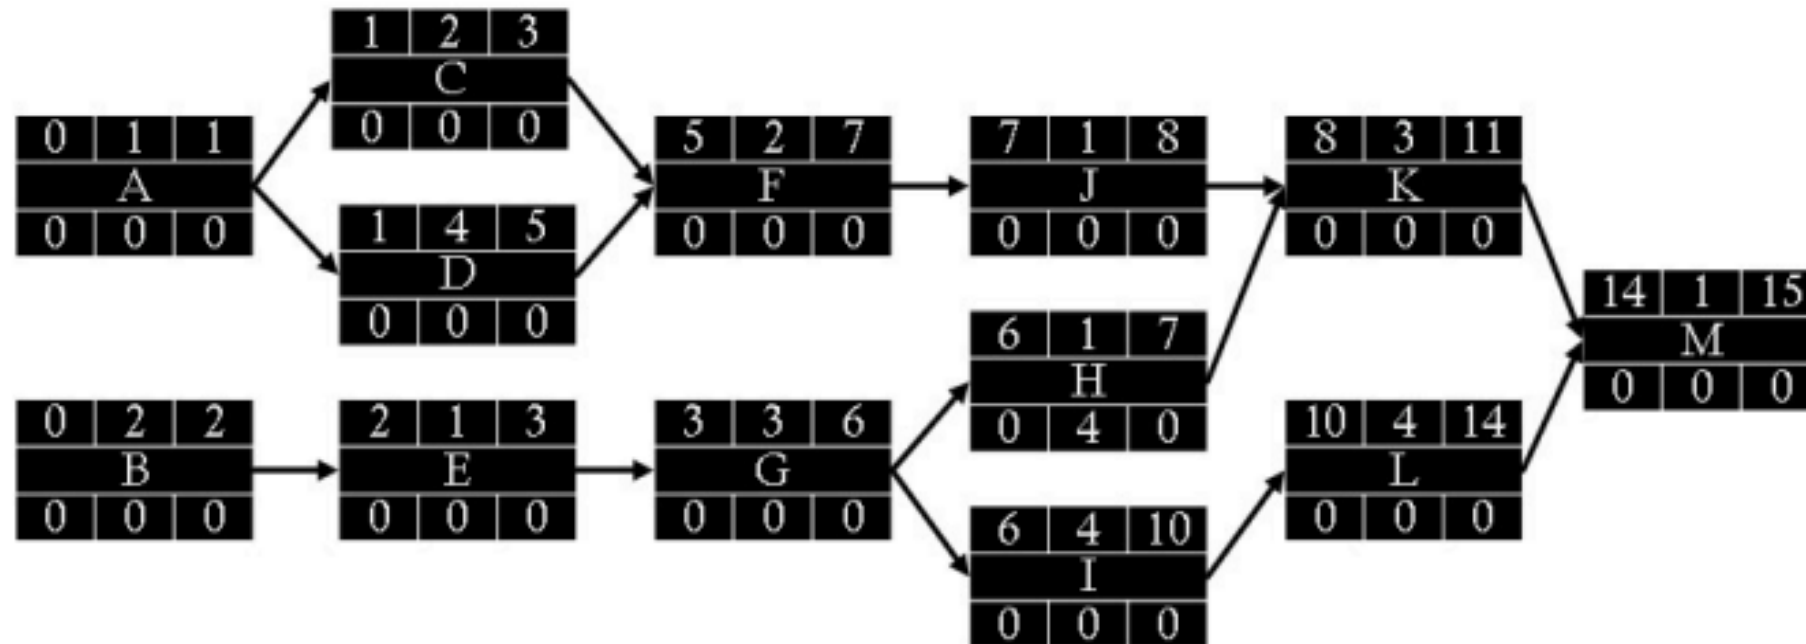

Figure 16: Activity Network Diagram filled with Forward Pass method
When the forward pass is done, we can generate all ES and EF times for all the activities. The EF of the last activity (M) gives us the overall duration of the project which is 15 weeks (Figure 16)